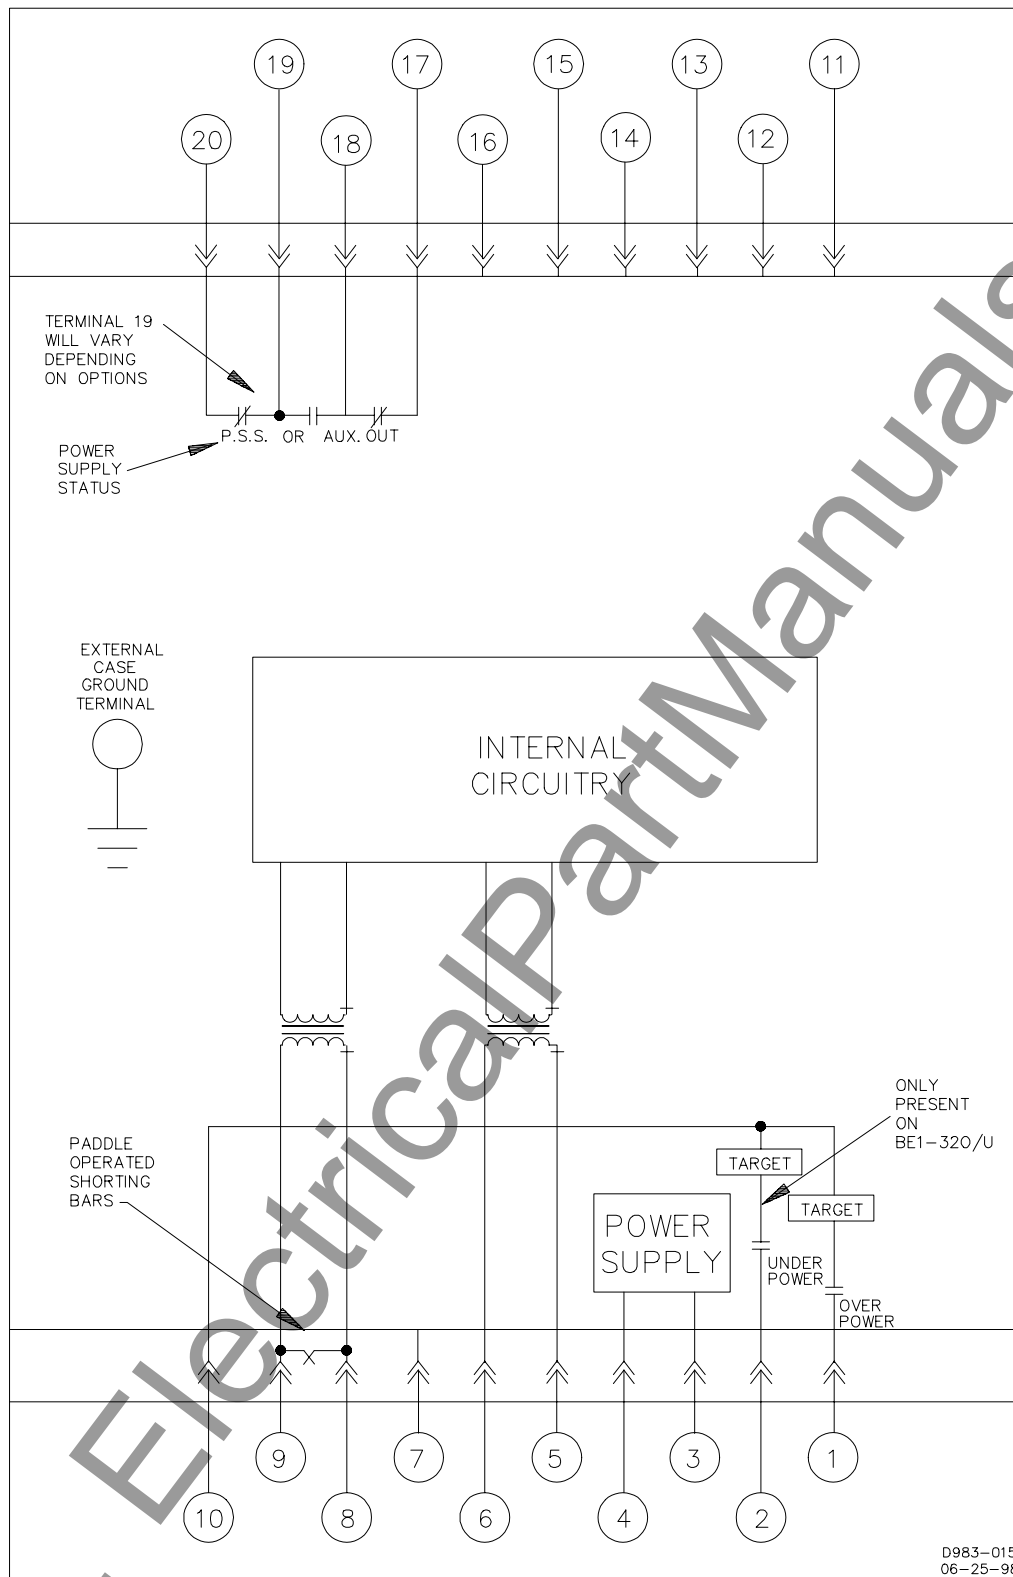

Figure 4-18. Internal Connections Sensing Type A, B, or V
- Internal connections are shown in Figures 4-18 through 4-21.